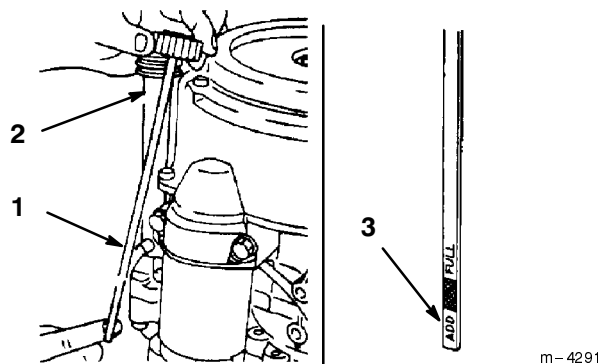

Figure 42
2. Clean around the oil dipstick (Fig. 42) so dirt cannot fall into the filler hole and damage the engine.
3. Unscrew the oil dipstick and wipe the end clean (Fig. 42).
4. Slide the oil dipstick fully into the filler tube, do not thread onto tube (Fig. 42). Pull the dipstick out and look at the end. If oil level is low, slowly pour only enough oil into the filler tube to raise the level to the "FULL" mark.
6. Slowly pour approximately 80% of the specified amount of oil, page 34, into the filler tube (Fig. 42). Now check the oil level; refer to Checking Oil Level, page 35. Slowly add additional oil to bring to "FULL" mark on dipstick.